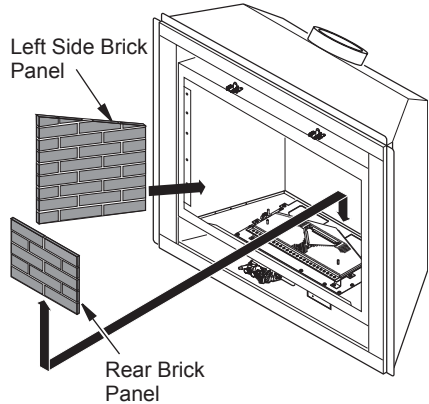

Figure 43 - Installing Rear Brick Panel
8. Install rear brick panel first. Rest bottom edge of panel on back edge of burner assembly (see Figure 43).
9. Install left side brick panel by sliding it between burner assembly and side of firebox (see Figure 43).